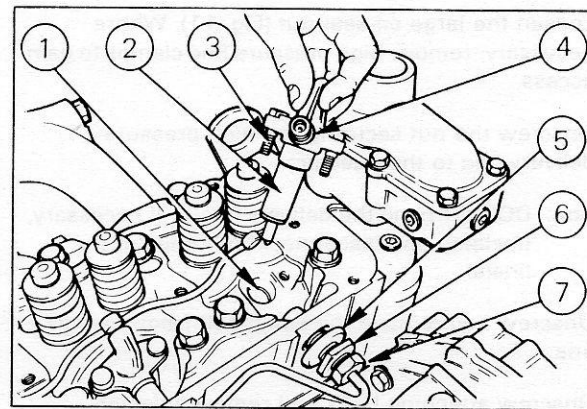

Fig. 14 - Replacing Injector
1. Ensure that the cylinder head injector hole is thoroughly clean, then fit new sealing washer (Fig. 14).
3. Insert the injector into the cylinder head and install but do not tighten the securing bolts (Fig. 14).
4. Insert the leak-off line banjo bolt (Fig. 14) and tighten it by hand only.